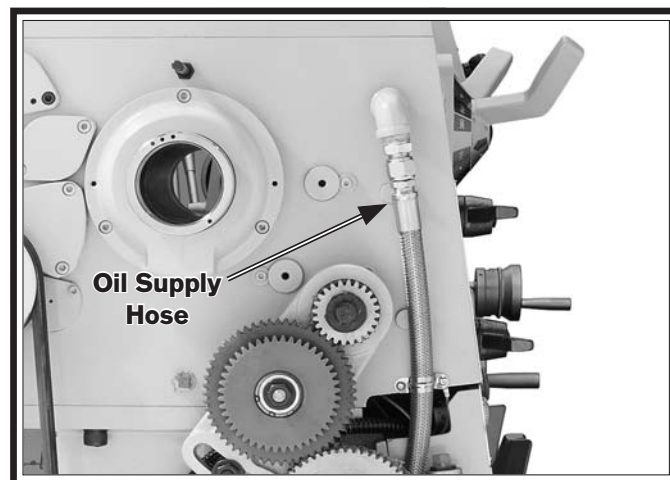

Figure 97. Headstock oil supply hose.
3. Disconnect the headstock oil supply hose see (**Figure 97**) from the headstock and point it into the waste bucket.